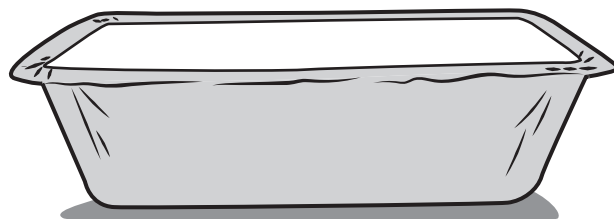

Figure 7
- 4 Figure 7 shows an aluminium foil takeaway container with a solid white board lid.